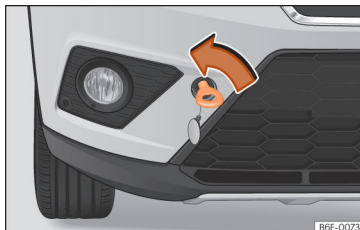

Fig. 47 Right side of the front bumper: towline anchorage in position.
- Screw the towing eye in the housing by turning it as far as it will go **anticlockwise** »» **Fig. 47** »» ⓘ. Use a suitable object that can completely and securely tighten the towing eye in its housing.